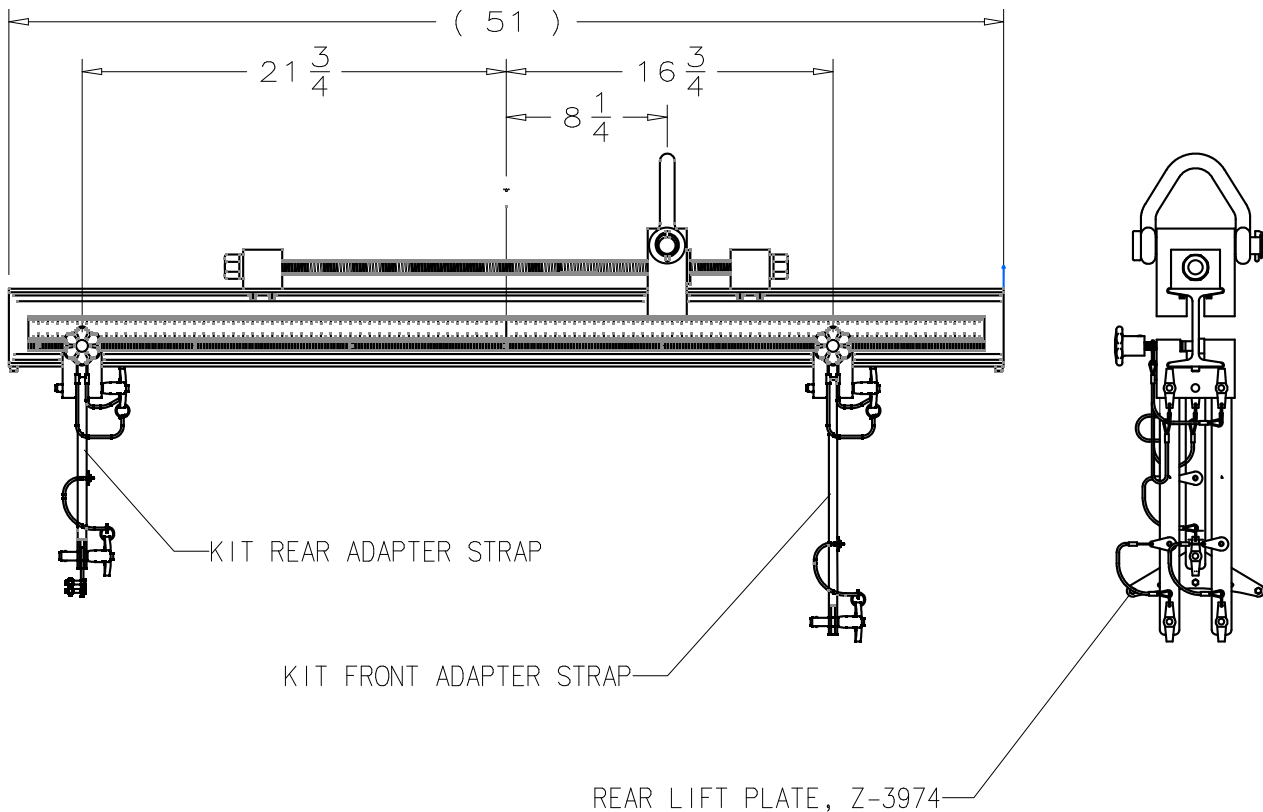

FIGURE 2
1. Locate the slide blocks on the engine sling bar assembly with the front slide block located at $21 \frac{3}{4}$ inches forward of zero point. Locate the rear slide block at $16 \frac{3}{4}$ inches aft of zero point and position the lift point at $8 \frac{1}{4}$ inches forward of zero point. Ensure that all lifting straps have been securely installed into the slide blocks (**see Figure 2**). The strap kit retaining ring may be placed into one of the unused holes in either of the slide blocks for storage.